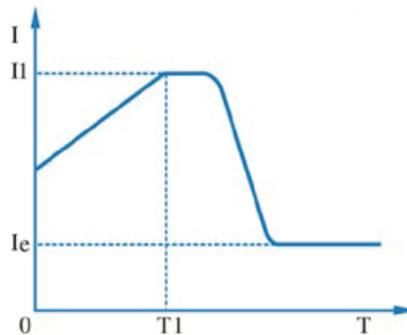

Fig. 5
With higher acceleration capacity, suitable for two-pole motor; the starting time can be shortened within a certain range (See Fig. 5).
- 6.9.9 Operation overload protection time: The inverse time lag is based on the rated working current of motor, and trip protection time curve is shown in Fig. 5.